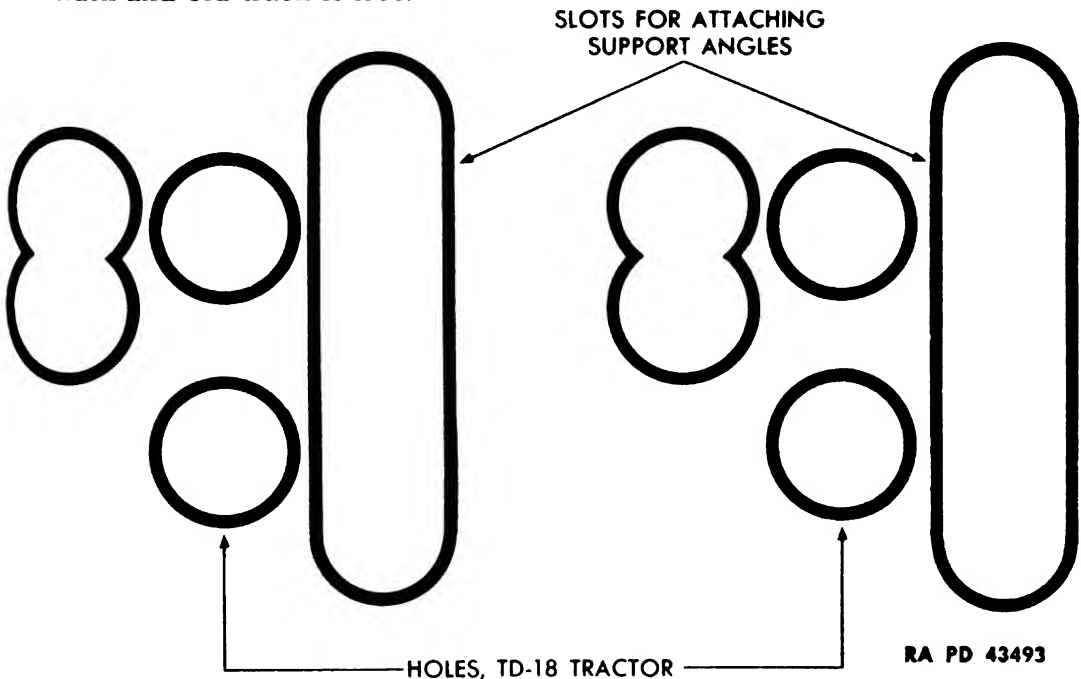

Figure 156 — Locating Holes in Angles
- (1) REMOVE TRACK PLATES AND TRACK SHOES (par. 109).
- (2) BREAK TRACK INTO SHORTER LENGTHS (TO SUIT OPERATOR) (figs. 156, 157, and 158).
(a) Install front support angle SE-1026-56 and rear support angle SE-1026-57 on adjustable head SE-1026-50 by using holes in angles (fig. 156).